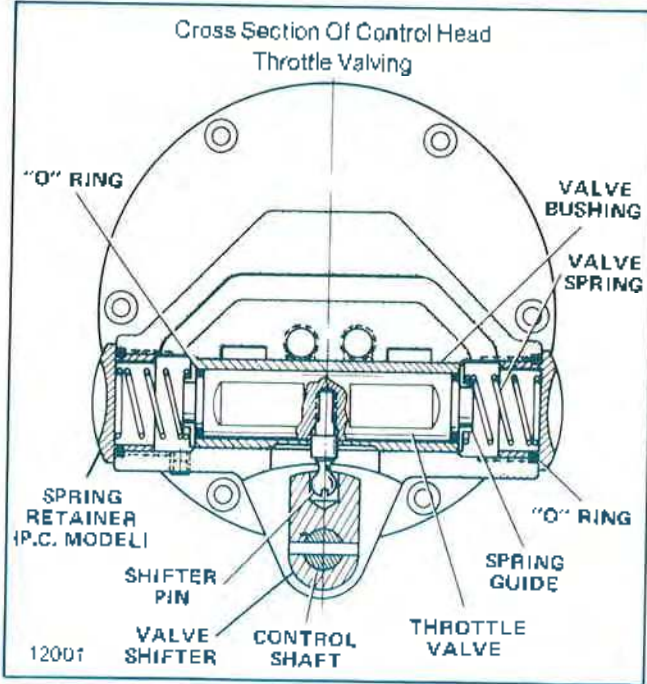

Figure 7-13. Section View Showing Assembly of Throttle Valve, Springs and Valve Shifter in Control Head.
remove throttle valve spring retainer caps from each side of housing (Figure 7-13). Valve springs, spring guides and "O" ring seals can now be removed from valve bore at each side of housing.
(4) The throttle valve is retained in the control head by the valve shifter pin. The pin is assembled with LOCTITE on the threads and should not be removed for routine servicing. If valve is to be removed, use a hex key to remove pin from bottom of throttle valve. (See Figure 7-13.) The valve can now be removed from housing in housing. The throttle valve bushing is pressed into place and honed to provide a .0001 to .0003 inch clearance with valve. If bushing is scored, worn, or otherwise damaged, the housing and bushing assembly should be replaced along with the valve.
(5) Remove air inlet swivel body and bushing from top of housing. Retain bushing gasket for reuse. Pull strainer screen from housing bore.
(6) Remove retaining ring from bottom of swivel body and pull off bushing. Remove "O" ring seal from its groove in bushing.
(7) Disassemble control cylinder (pendant throttle control models) by removing cylinder lock ring. Cylinder and cap will come off with lock ring. Lift out spring and then remove piston and seal assembly from cylinder. Piston shaft "O" ring seal and retainer washer will drop out as piston is removed.
(1) Lightly oil throttle valve and bushing with S.A.E. 20 oil. If shifter pin was removed from valve, assemble valve with threaded hole facing slot at bottom of bushing in housing (Figure 7-13). Shifter pin should be assembled with LOCTITE. Extreme care must be taken not to get any LOCTITE on valve outside diameter since this will lock up valve and scrap the complete head assembly.